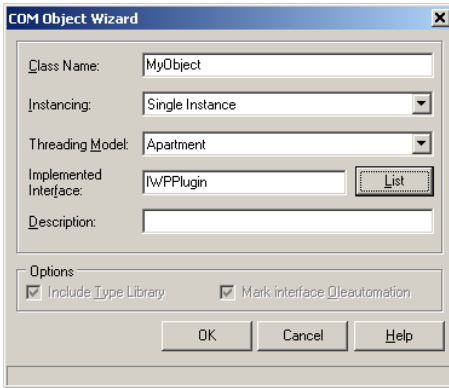

Fig 2.1 COM Object Wizard
3. Create a new COM object: **File→New→Other...→ActivyX→COM Object**. The dialog *COM Object Wizard* (Fig. 2.1) will be appeared.